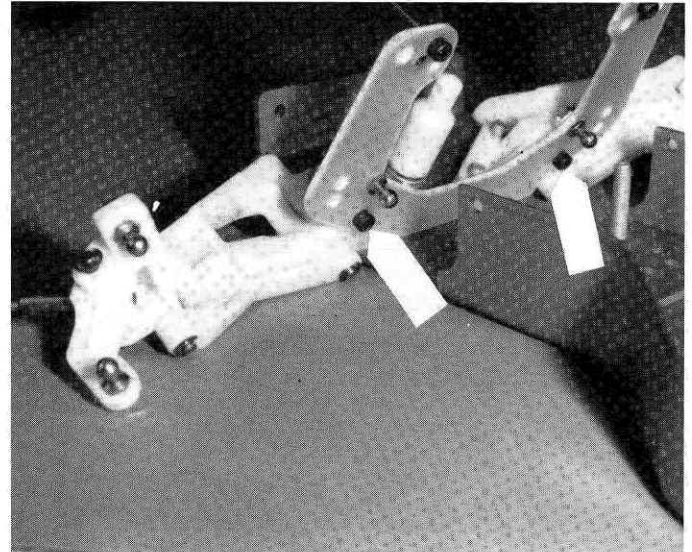

Fig. 15
□ **Fig. 15** From bag 6-1 take the 2 short 4/40 screws and install the shock strut onto the 2 front suspension mounts. If the holes don't line up, loosen the aluminum screws in the chassis, align the parts and tighten all the screws.